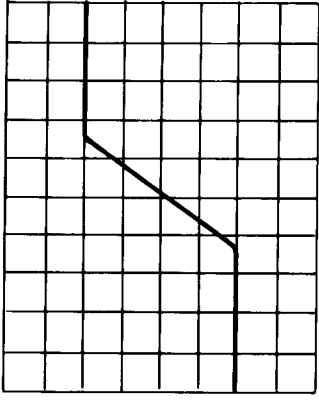

Figure 17c. Time Interval Measurement Using Delayed Time Base - Pulse 2
4. Rotate the DELAY control clockwise until the second pulse is positioned on the same point of the center vertical graticule line (see figure 17c). You can verify this is the correct pulse by returning to MAIN sweep and observing the intensified portion. Again note the DELAY control reading.